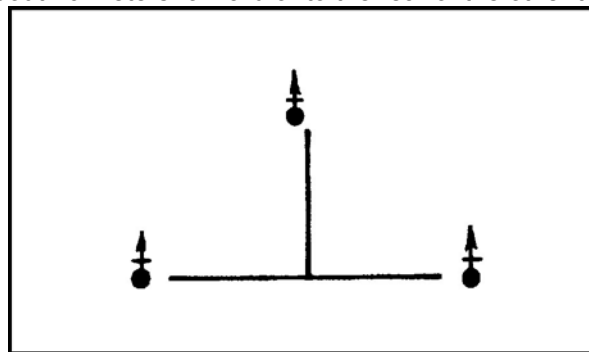

Figure 4. Triangle formation.
- c. The triangle formation (Figure 4) is used with the 4.2-inch and 120-mm mortar sections. The base mortar is about 20 meters forward or to the rear of the other two mortars.